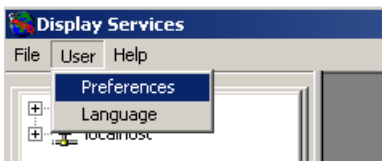

Figure 401. Accessing User Preferences
2. From the menu bar, choose **User > Preferences**, Figure 401.